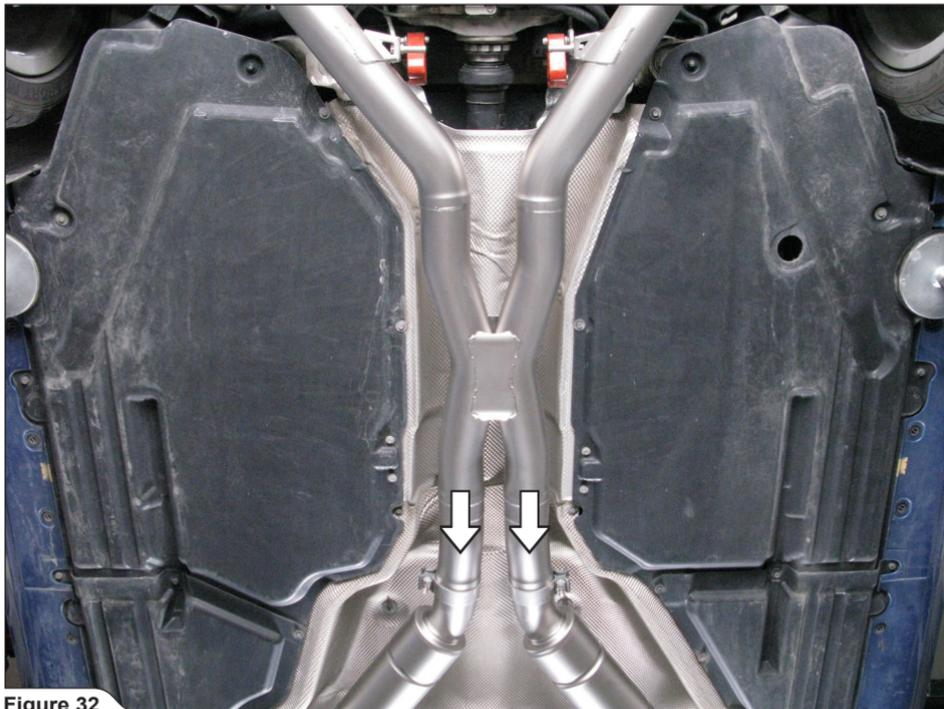

Figure 32
11. Slide the collector all the way onto the link pipes, align the pipes and hand tighten the clamps (Figure 32).